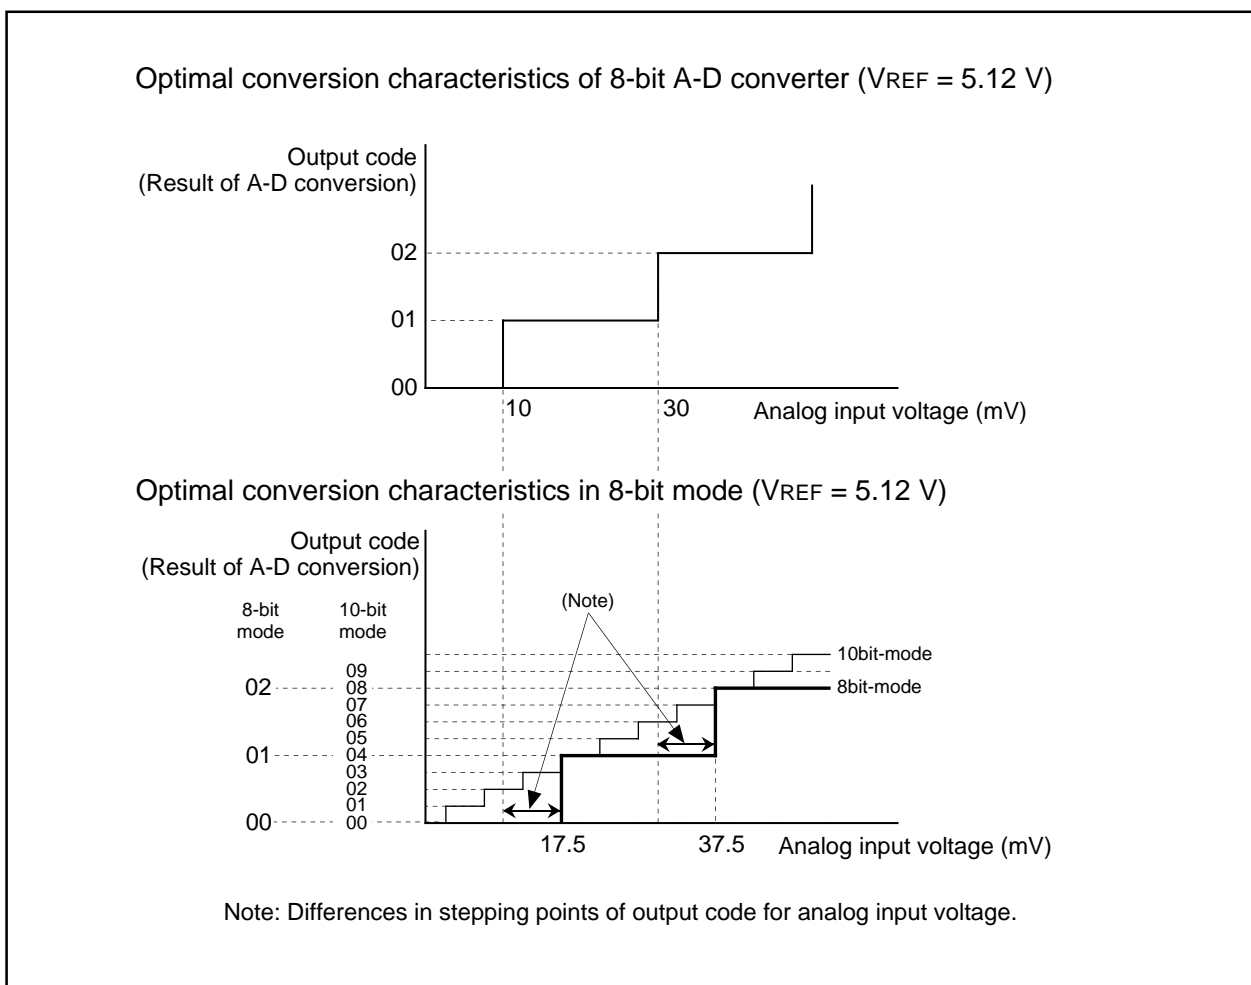

Figure 2.7.24. The level conversion characteristics of 8-bit mode and 8-bit A-D converter
(1) In 8-bit mode, 8 higher-order bits of the 10-bit successive comparison register becomes A-D conversion result. Hence, if compared to a result obtained by using an 8-bit A-D converter, the voltage compared is different by $3 V_{REF}/2048$ (see what are underscored in Table 2.7.12), and differences in stepping points of output codes occur as shown in Figure 2.7.24.